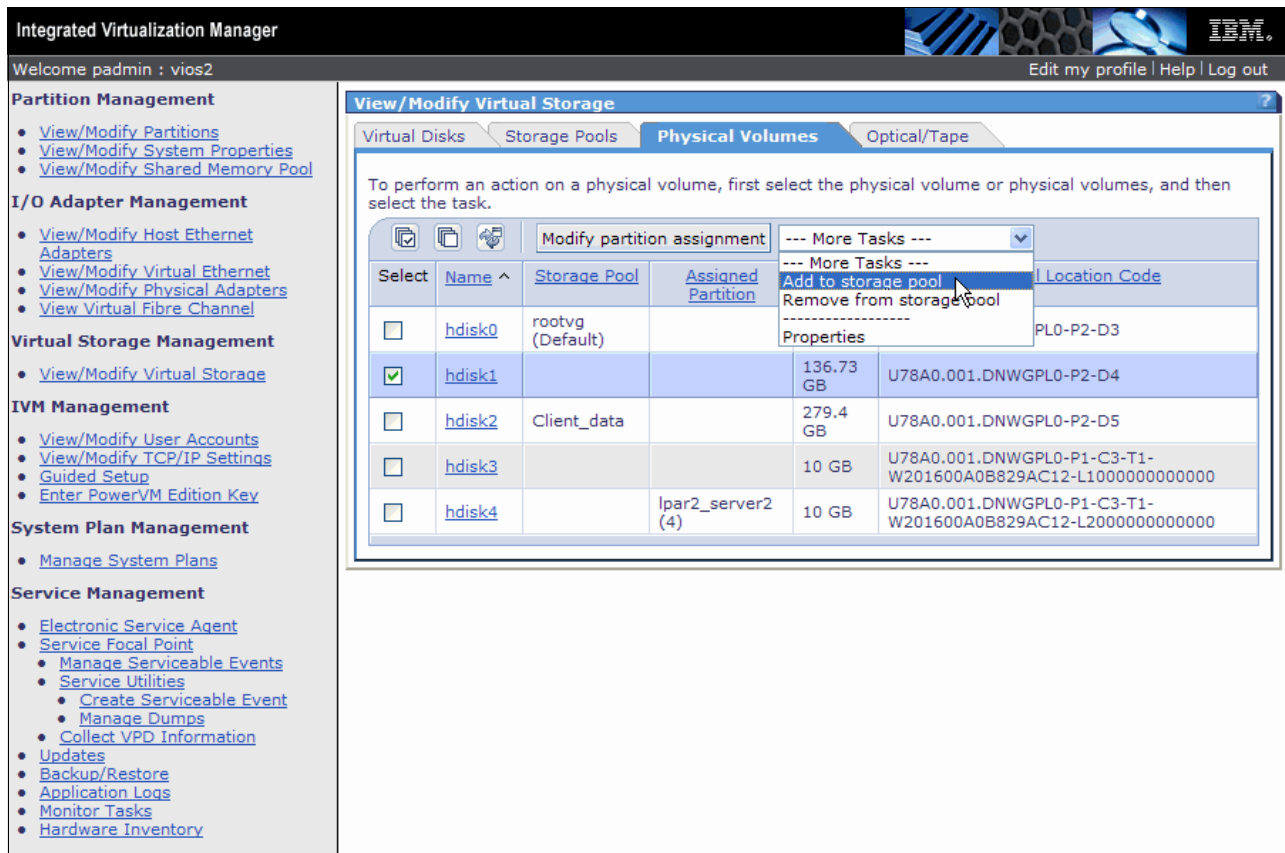

Figure 4-95 Adding a second disk in a storage pool for rootvg
1. Use the IVM to add a second disk of a similar size to rootvg. Under Virtual Storage Management in the navigation area, click **View/Modify Virtual Storage**, then go to the **Physical Volumes** tab. **Select** a disk of a similar size that is not assigned to any storage pool. From the **More Tasks** drop-down menu, click **Add to storage pool**, as shown in Figure 4-95.